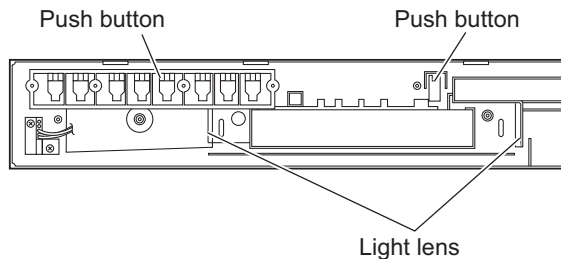

Fig.3
In the assembly, attach the switch board after attaching the push buttons and light lens as before. (See Fig.3.)
2.3.3 Removing the tray (See Fig.3.)